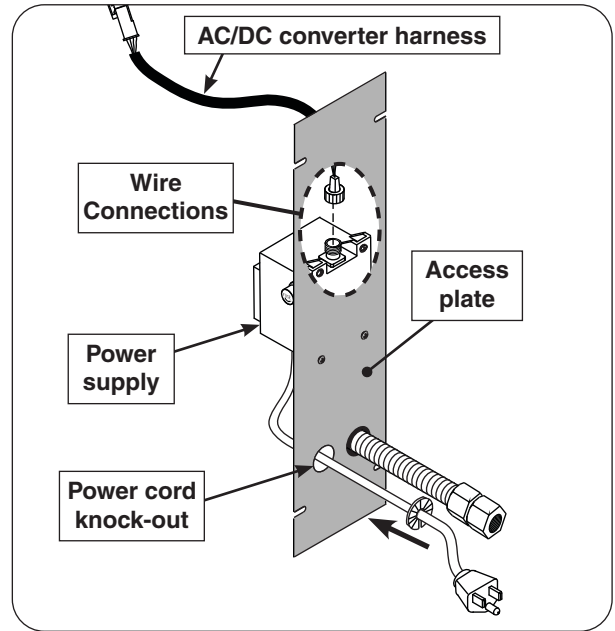

Fig. 20-1 Access plate view & orientation
A power supply is pre-mounted to the access plate. For ease of installation, disconnect the converter harness from the power supply. Locate the wires coming from the inside of the post to the power supply and carefully disconnect (see Fig. 20-1 and 20-2).
4. Install the bushing onto the power cord and slide the bushing up against the access plate knock-out hole and snap into place. See Fig. 20-1.